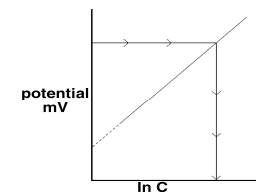

Figure 3
A graph of the natural log of concentration (lnC) vs. potential (V) can be plotted (see Figure 3).
- Using the voltage reading and the principle described in Figure 3, the natural log of concentration of the specific ion can be determined.